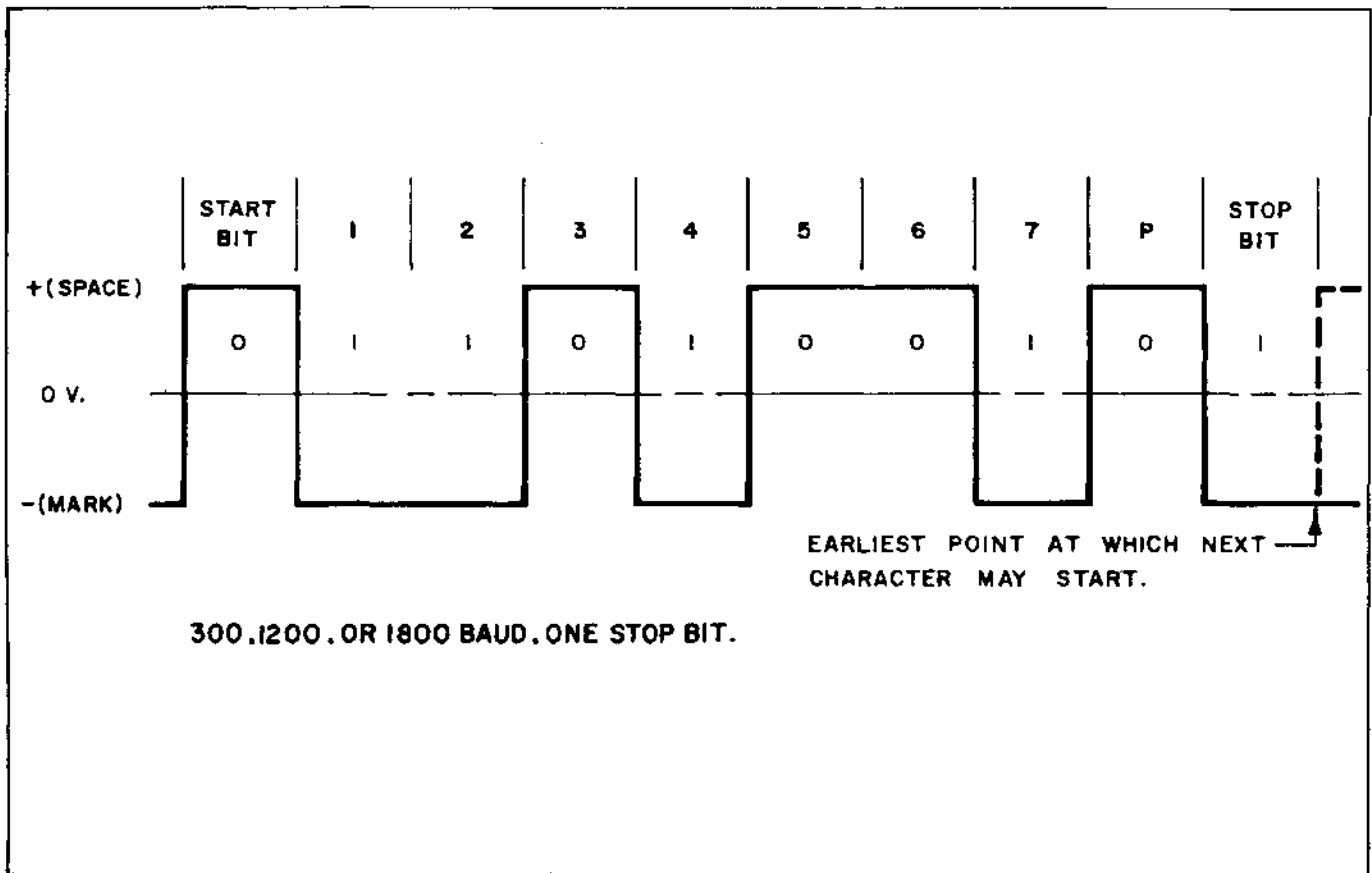

Figure 4-4. Data Format on Interface
Figure 4-4 is an idealized representation of an ASCII character (K) on the Transmitted Data or Received Data lines. Voltage levels are nominally ± 12 volts. Timing varies depending upon the baud rate selected. The idle condition if the line is mark. The beginning of a character is noted by the initial transition from mark to space (the start bit). The seven data bits follow, least significant bit first. Then comes the parity bit, followed by the stop bit.